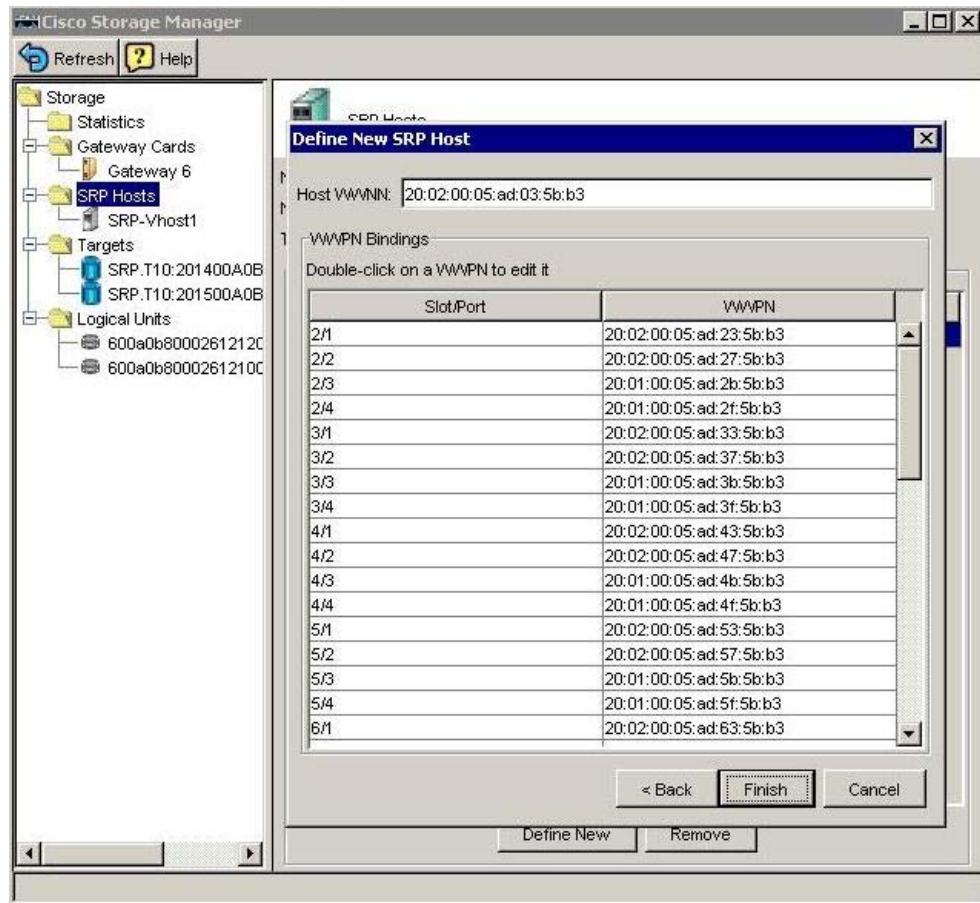

Figure 6-6 Define SRP host
6. Click **Next**. The WWNN is assigned to the SRP host shown in Figure 6-6.